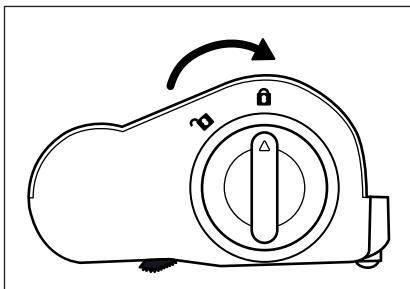

Fig. 29
- 5) Insert the rotary brush **20** into the floor brush **21** and turn the rotary brush release **19** in the direction of the symbol **🔒** (close) (see Fig. 29).